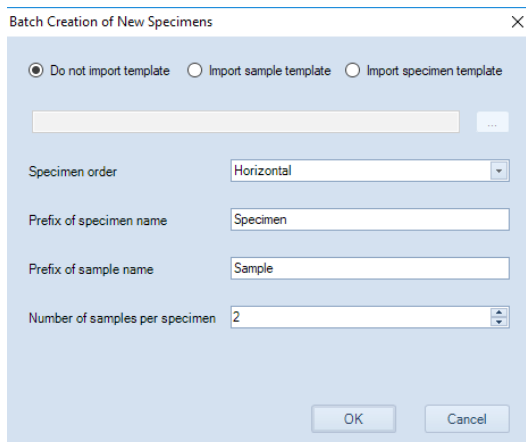

Figure 2-16 Dialog Window for Batch Creation of New Specimens
- ▶ *Batch Creation of New Specimens*: Create new specimen(s) with customized specimen and sample organization. When clicked, software will prompt following window (Figure 2-16). User need define item(s) in this window, click *OK* to complete or *cancel* to go back to the previous window.